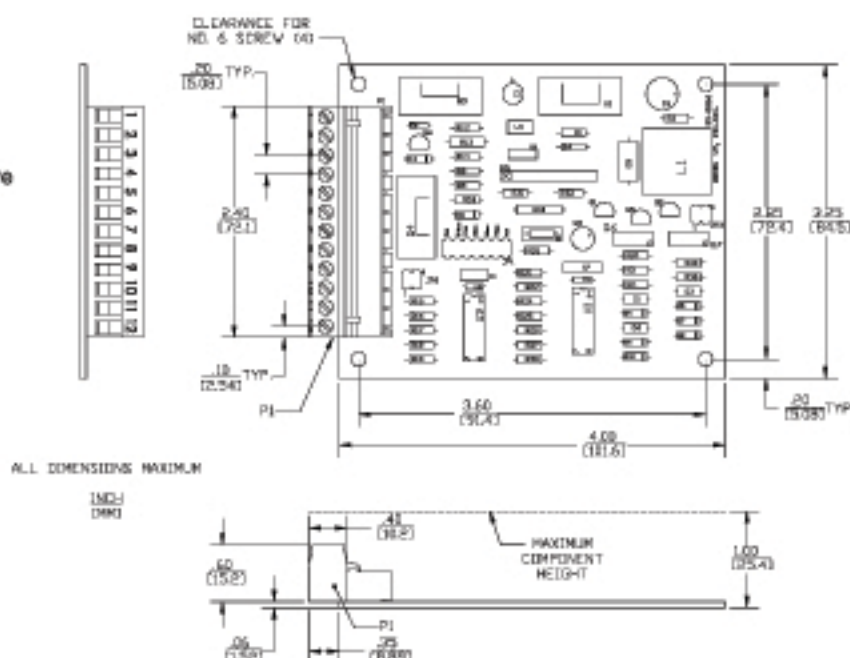

Figure 1
- Open frame printed circuit card suitable for OEM applications. (See Figure 1)